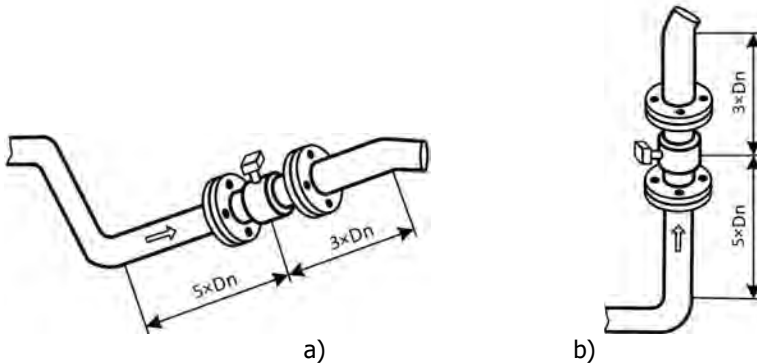

Figure 5.4 Examples of sensor installation: a) inclined; b) vertical
**Inclined and vertical installation of the sensor:** used in pressure pipelines, Figure 5.4. It is preferable to mount the sensor on the ascending section (flow from bottom to top), otherwise there is a risk of air penetration into the pipeline, which will lead to additional measurement errors (the orientation of the indicator around the longitudinal axis is not important).